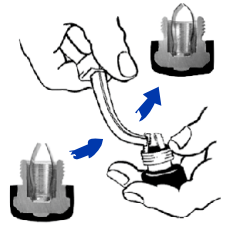

Fig. 5
- For increase of the spring pressure** bend both spring leaves so that they are in the top part more curved – see Fig. 5.